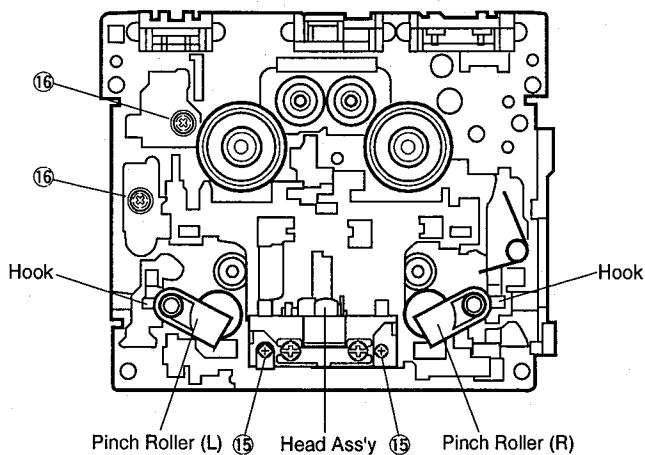

Fig. 13
Detach the hook and then remove the Pinch Roller in Fig. 13.
Remove 2 screws (15) and then remove the Head Ass'y in Fig. 13.
Remove 2 screws (16) in Fig. 13.